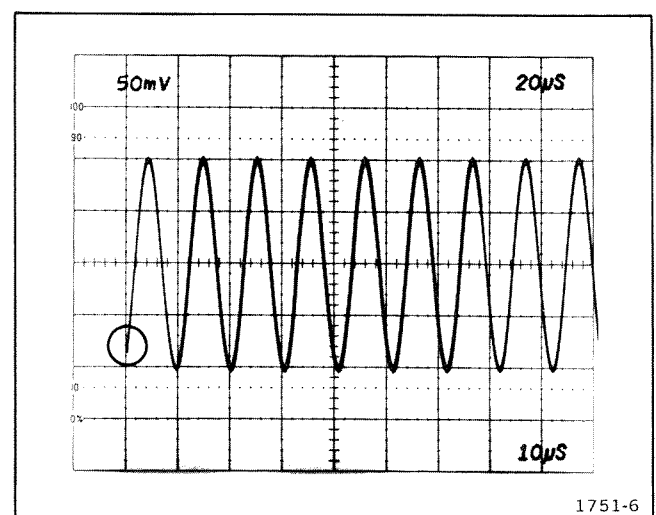

Figure 4-6. Trigger sensitivity.
a. Adjust Trig Sens R125 to trigger sweep at 0.3 division from bottom of waveform as LEVEL is rotated through negative (−) portion of its range. (See Figure 4-6.)